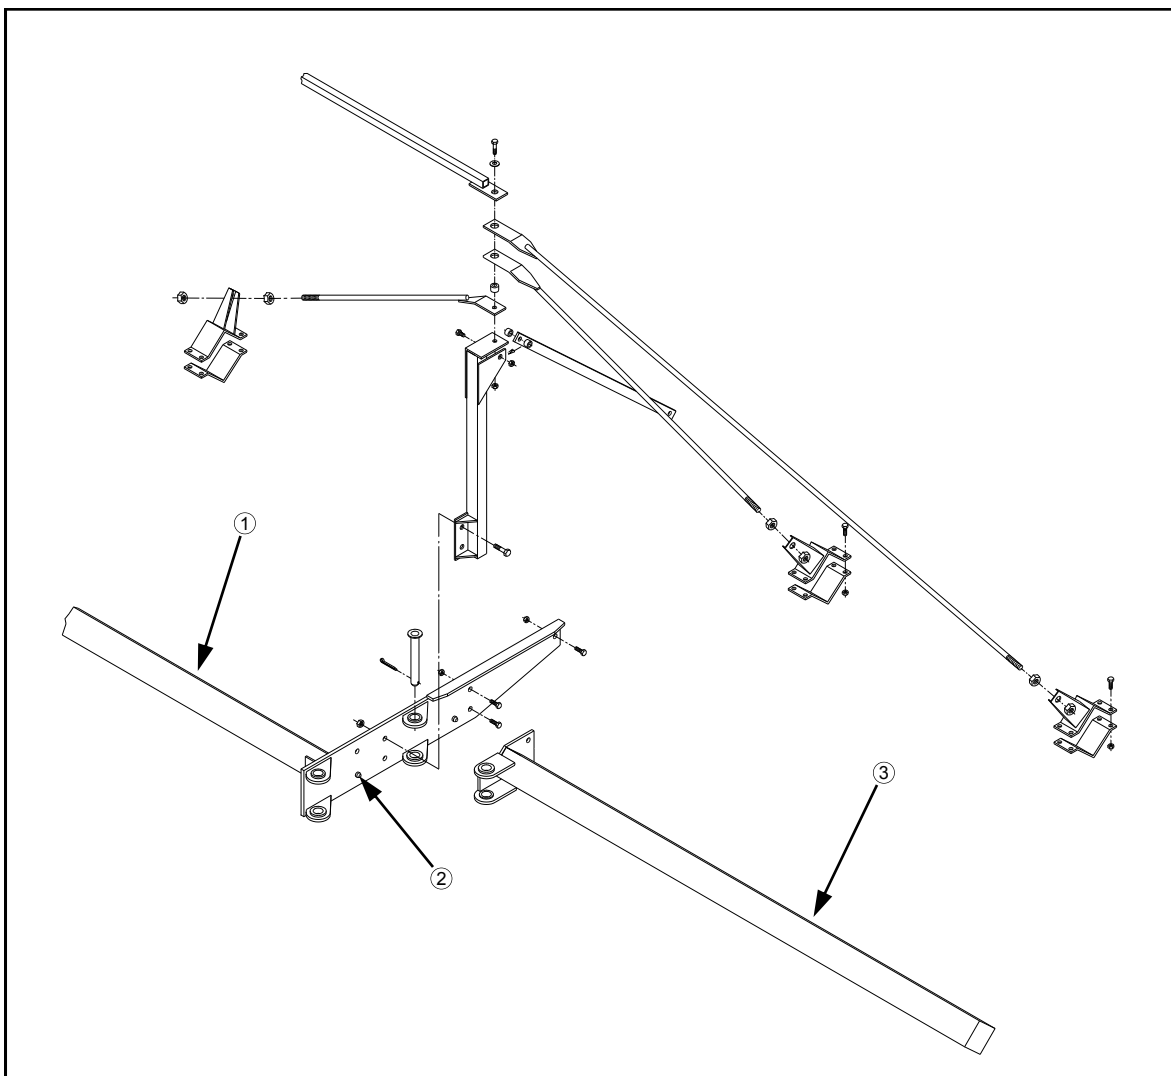

FIG 4.12
1. Attach the center tool bar (fig. 4.12, item 1) to front frame cross member with supplied hardware according to 204 DETASSELER Parts Manual for correct hardware.
The guide pin that is welded to outrigger mount should be located toward the bottom (fig. 4.12, item 2).
2. Attach left and right outrigger (fig. 4.12, item 3) with supplied hardware. Refer to 204 DETASSELER OPTION Parts Manual.